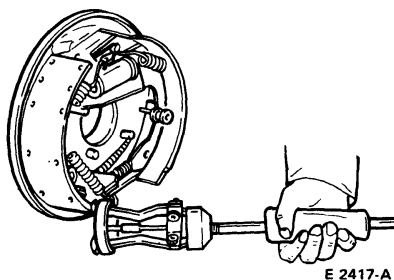

FIG. 5 Removing Tapered Bearing Cup
3. Remove the outer bearing cup from the housing bore, (Fig. 5) and place it on the axle shaft assembly.